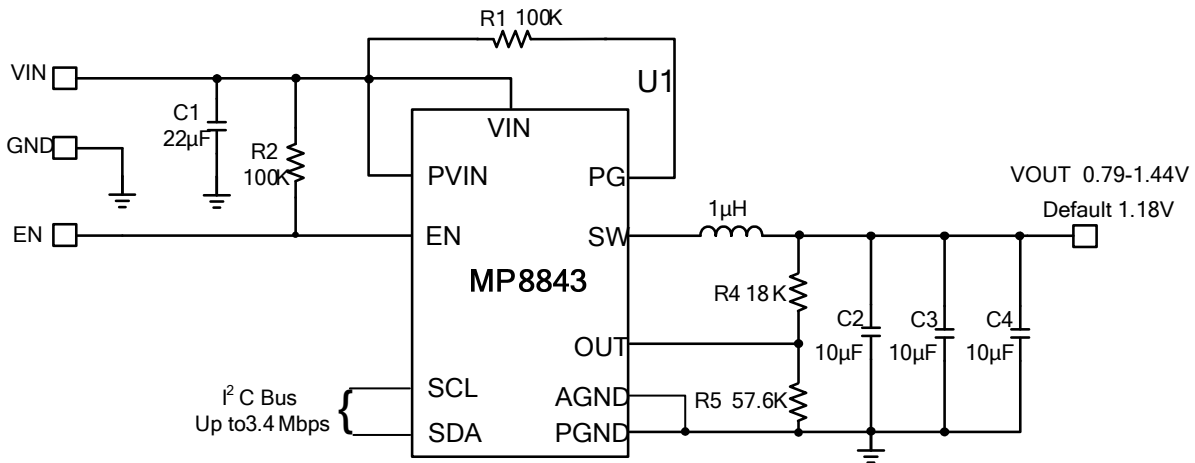

Figure 6: V_{OUT} Range Extended by External Feedback Resistor Network
The output voltage is determined by the external feedback resistor networks (R_4 and R_5) and the internal reference voltage (V_{REF}) (see Figure 6). The internal reference is controlled by the I²C and the initial V_{REF} is 0.9V. V_{OUT_REAL} and V_{STEP_REAL} can be calculated with Equation (2) and Equation (3):